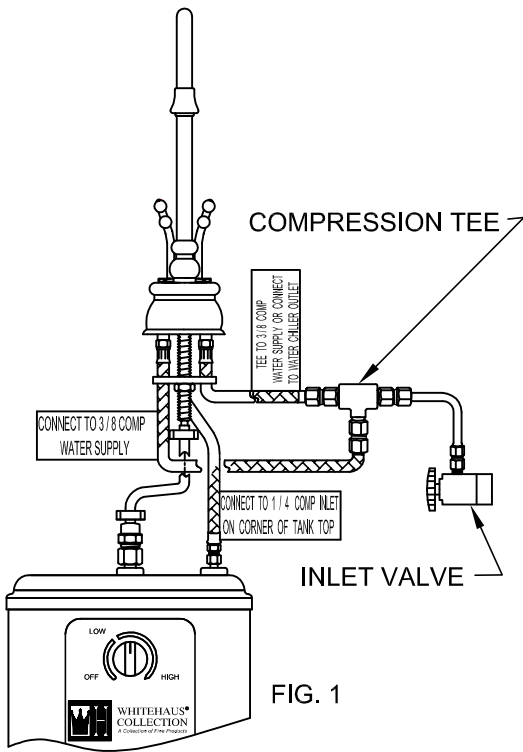

FIG. 1
6. **FOR WHFH-HC4550 & WHFH-HC4650** - IF NO WATER CHILLER OR FILTER IS USED SEE FIG 1. CONNECT THE TWO WHD2001 3/8" COMPRESSION HOSES TO A COMPRESSION TEE THEN CONNECT TO A COLD WATER SUPPLY. DO NOT CONNECT DIRECTLY TO THE WATER SUPPLY WITHOUT SHUTOFF VALVE. **FLUSH** ALL LINES BEFORE CONNECTING. GO TO STEP 10.